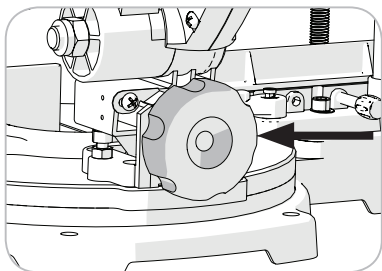

Fig. 20a
- Loosen the bevel locking screw. **(Fig. 20a)**